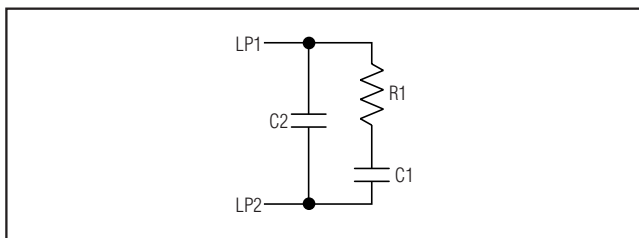

Figure 1. Typical Loop Filter
The MAX9486 features two PLLs: PLL1 and PLL2. The first phased-lock loop, PLL1, contains an integrated VCXO that uses an external crystal to track the input reference signal and attenuate input jitter. Figure 1 shows the external loop filter of the PLL containing resistor R1 and two capacitors, C1 and C2. This loop filter is connected between LP1 and LP2 as shown in the *Typical Operating Circuit*. The loop-filter bandwidth is determined by C1, C2, R1, and RSET where RSET is used to set the value of the charge-pump current. The typical values of C1, C2, R1, and RSET are 22nF, 560pF, 1000kΩ, and 13kΩ, respectively.
where R1 (Ω) is the resistor in the PLL1 loop filter (Figure 1), ISET1 (A) is the charge-pump current calculated from the equation in the *Charge-Pump Current*
where C1 (F) and R1 (Ω) are the values of the capacitor and the resistor in the PLL1 loop filter shown in Figure 1; ISET1 is calculated as shown in the *Charge-Pump Current Setting* section and N = 2208.